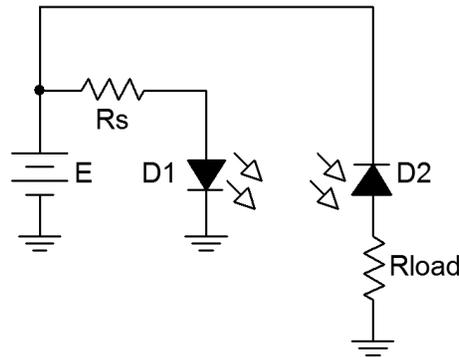

Figure 1
5. Figure 1 shows an emitter/detector pair. These devices will emit and detect light at the same wavelength and tend to not produce or detect light at other wavelengths. This aids in avoiding interference. The detector is configured in photoconductive mode. Its current will increase with increasing light level. This current also flows through  $R_{load}$  meaning that  $V_{load}$  will be proportional to light level.
6. Build the circuit of Figure 1 using  $E = 7$  volts,  $R_s = 470 \Omega$  and  $R_{load} = 33 \text{ k}\Omega$ . The emitter diode is denoted with a yellow dot on its case while the detector diode shows a red dot. It is very important